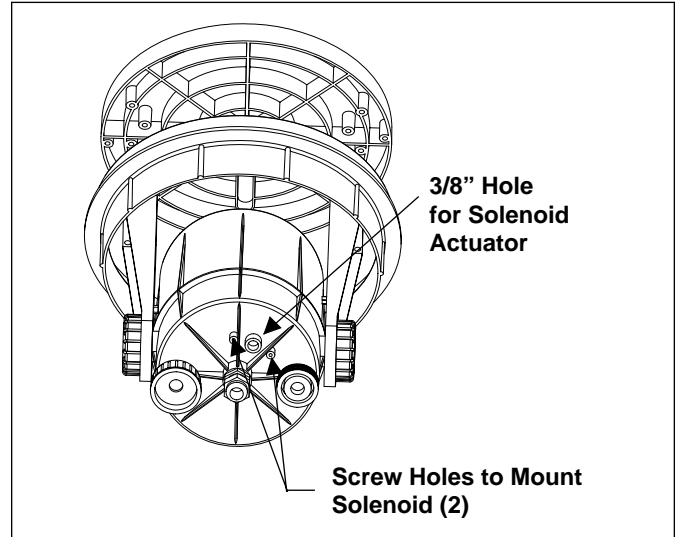

Figure 2. Laminar Jet Assembly - Bottom View
1. To install the solenoid, turn the Jandy Laminar Flow Jet upside down and locate the three (3) holes molded into the bottom (see Figure 2). The hole in the center is 3/8" in diameter.